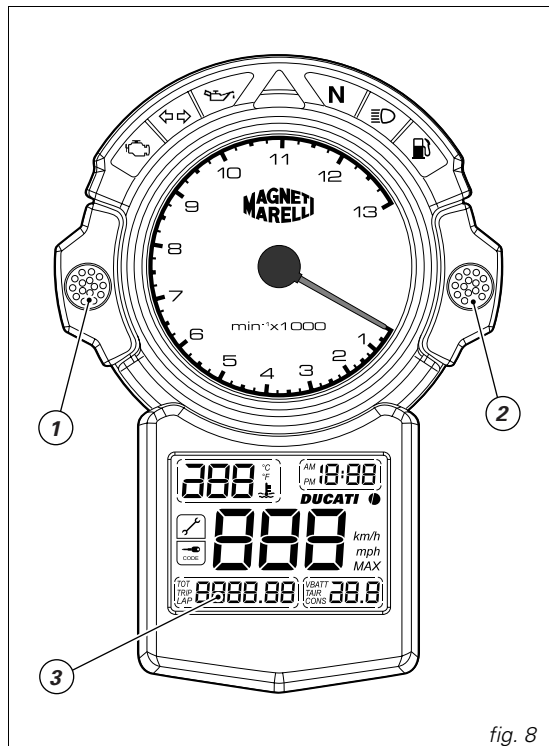

fig. 8
Hold down the button (1, fig. 8) for at least 2 seconds.
To select AM/PM, press button (2, fig. 8). Press the button (1) to confirm, then go on to set the hours.
Select the TRIP indicator on the display (3, fig. 8).
The engine control unit transmits the correct vehicle model and unit measurement information automatically for the instrument panel to display. To force a change of these parameters, turn the key from OFF to ON while holding down both buttons (1, fig. 8) and (2, fig. 8).